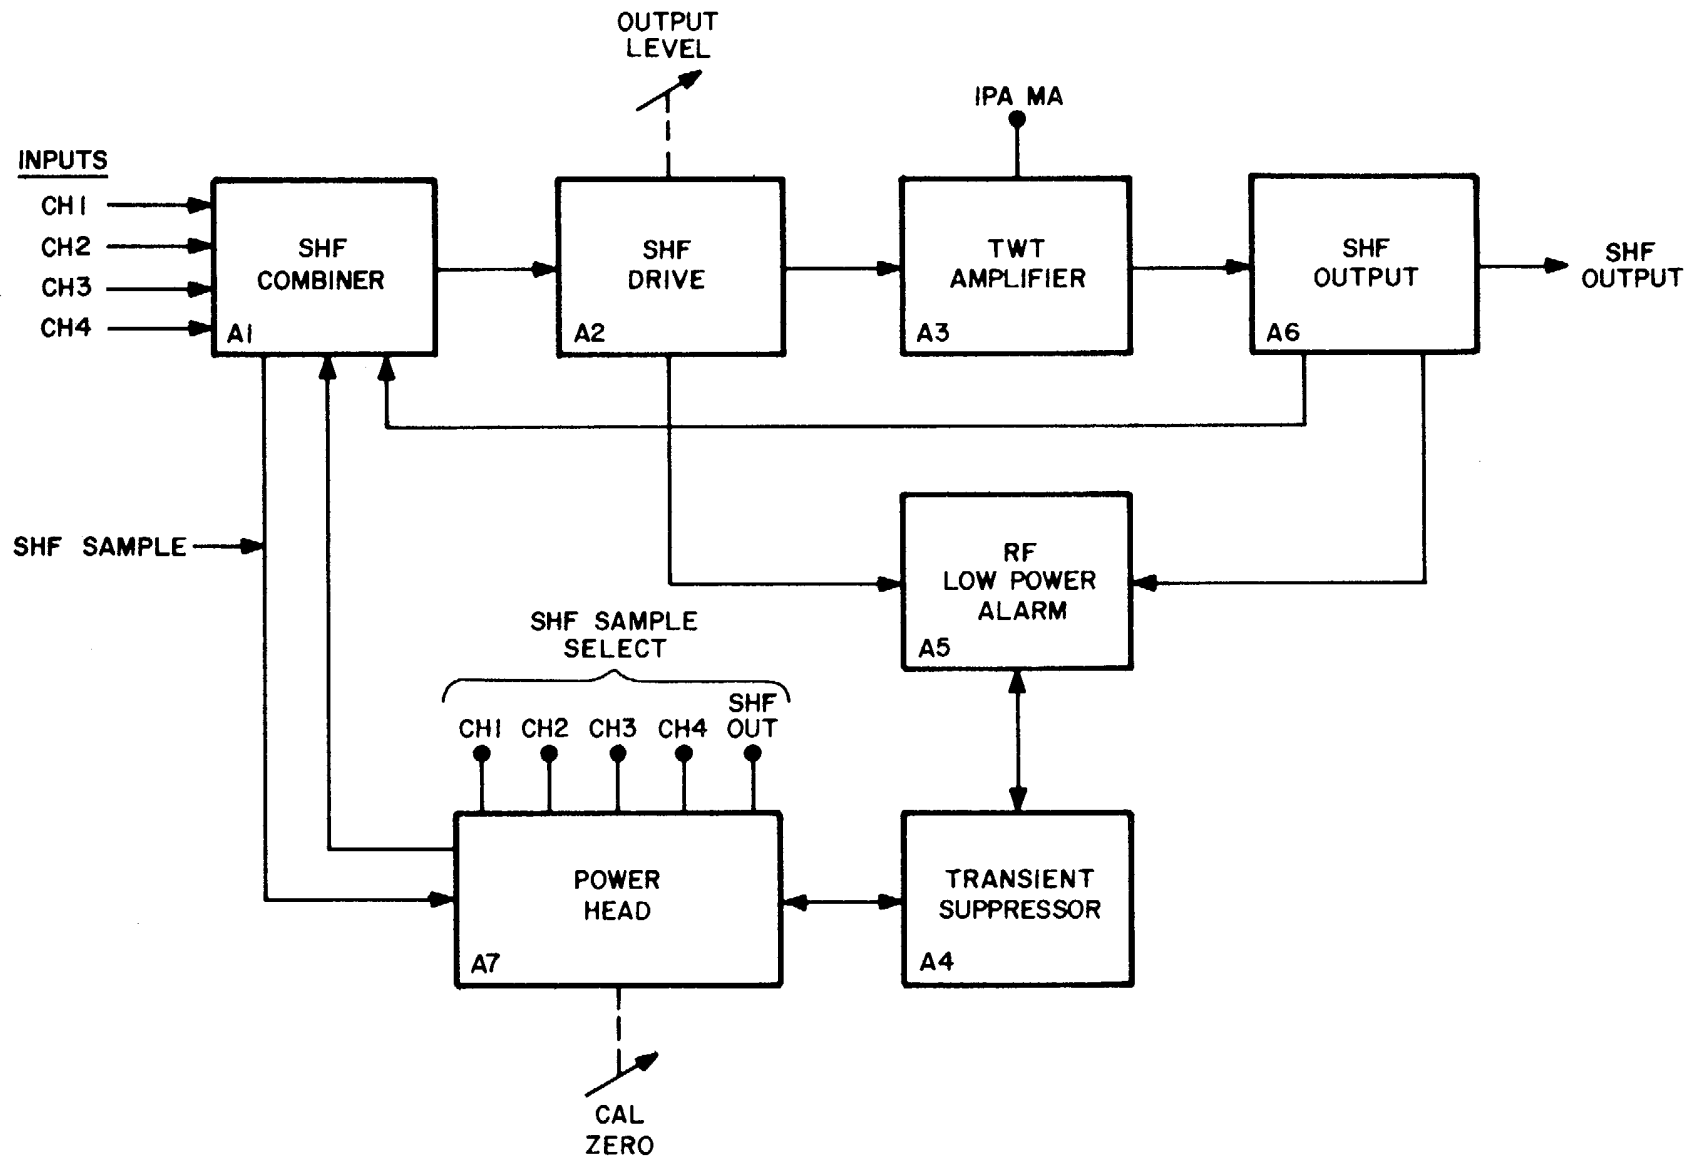

Figure 6-23. Amplifier-Mixer Simplified Block Diagram.
(1) Figure 6-23 is a simplified block diagram of the amplifier/mixer. SHF output signals from the upconverters enter the SHF combiner. Front-panel LEVEL ADJUST controls provide for input level balancing. The SHF MONITOR meter indicates the level of the channel selected by the coaxial selector switch. The combined signal is routed to the SHF drive assembly, where the OUTPUT LEVEL control adjusts the drive level to the TWT amplifier to control the TWT output, TWT amplifier output is applied to the SHF output assembly, where it passes through a bandpass filter. The filtered output is connected to the front-panel SHF OUTPUT connector.